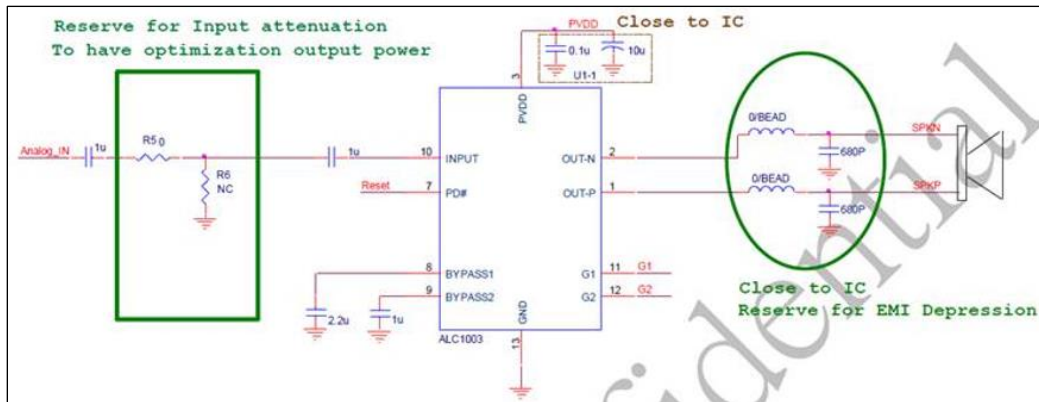

Fig 22-17 Reference design of using D type power amplifier
- If the power amplifier is a D type amplifier, refer to the design shown in Fig 22-17 (power amplifier is ALC1003).